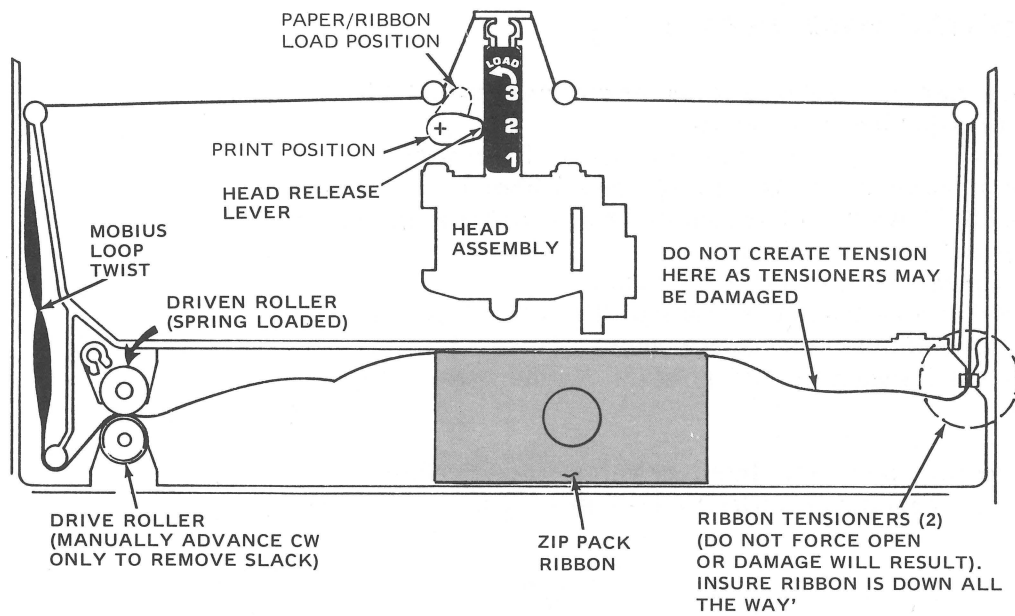

Figure 4. Ribbon threading diagram
9. Check ribbon position, remove slack if necessary by rotating ribbon drive roller as explained in Figure 4, move head lever to print position and install top cover.